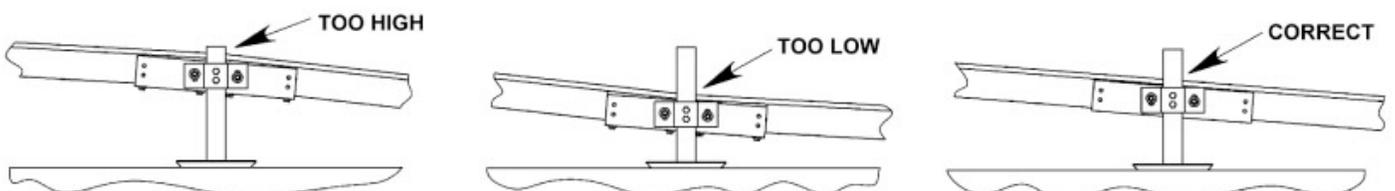

**FIG. 17**
- 4.1 Install leg support brackets and support legs to ramp section(s) as shown in FIG. 17. **Note:** Ramp support legs should extend at least 1" past the support tube bracket but no more than 20" above the walking surface of the ramp (FIG. 18).